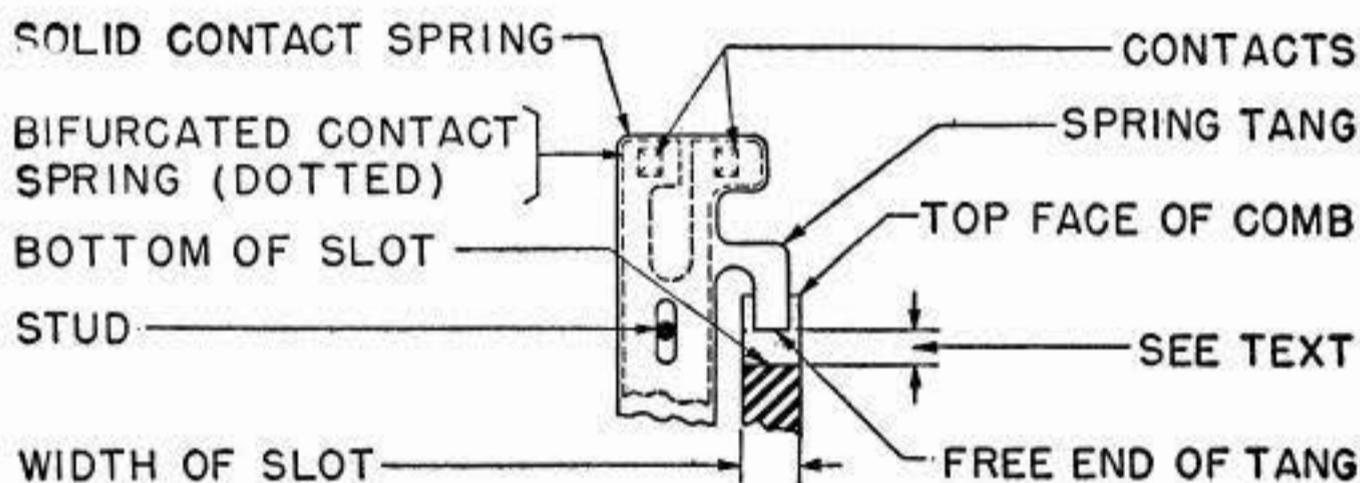

Fig. 75
(b) The width of each spring tang should lie entirely within the slots in the comb as gauged by eye. **Fig. 75**
2.149 **Sensing - Contact - Assembly Comb Alignment:** The spring tangs should rest in the slots of the comb so that there is approximately equal clearance from the free end of the tang to the bottom of the slot as gauged on the two end springs with tangs. **Fig. 75**